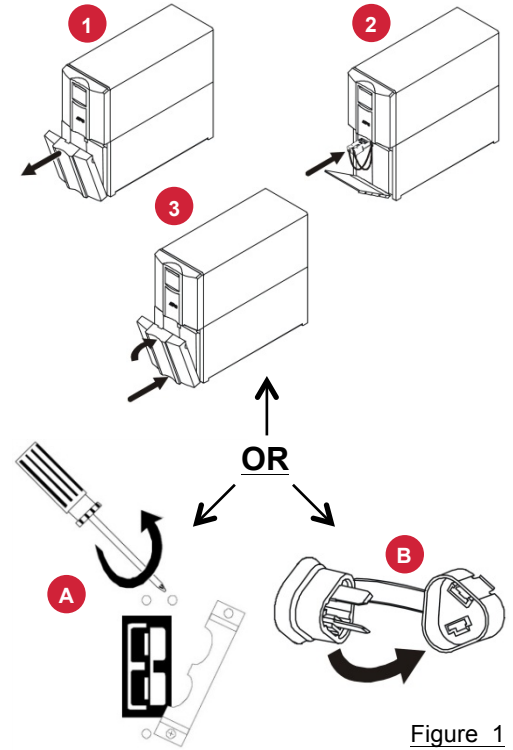

Figure 1
Connect the UPS's Internal Batteries (Figure 1):
NOTE: The Battery Disconnect/Connector may vary or be omitted on some models. Figure 1 illustrates some of the variations in connectors. Please follow the illustration which best resembles your UPS.
Procedure for Figure 1: (1, 2, 3)
Procedure for Figure 1: (A)
Procedure for Figure 1: (B)
- 2.3 Install all external Battery Packs (if applicable). The External Battery Pack connector is located on the rear panel of the UPS, and is either BLUE (48V) or GREY (24V) **2**. If the Connector has a metal cover, remove the fastening screws and move the cover as in Figure 1.A.